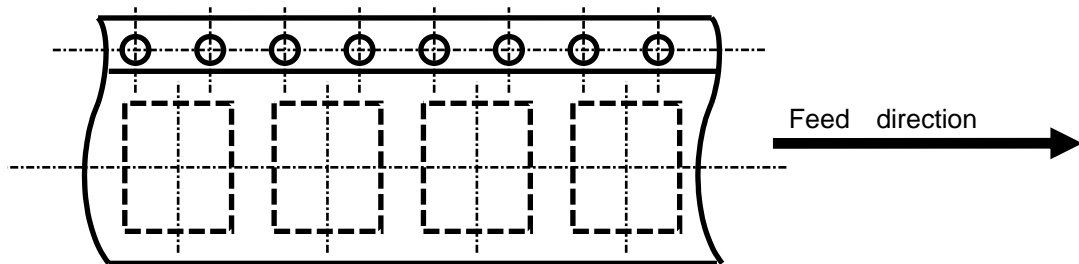

Fig2
- 6.2. Taping direction Dwg. No.F-362.022 and Fig.2